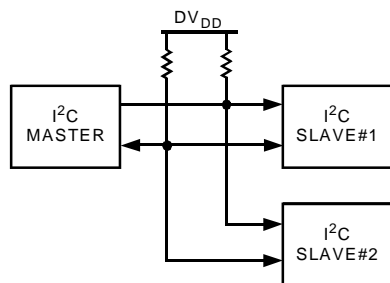

Figure 36. Typical I²C System
- An I²C master can communicate with multiple slave devices. Because each slave device has a unique 7-bit address then single master/slave relationships can exist at all times even in a multi slave environment (figure 36)